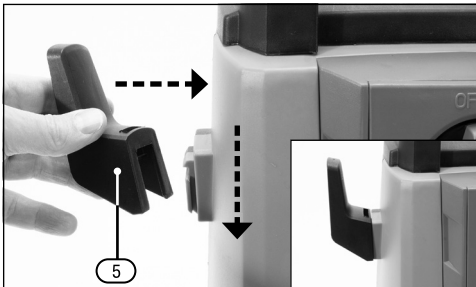
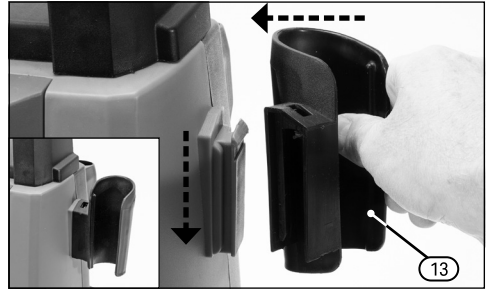

Fig. 3
Fig. 4
6.2 Fitting the Lance Holder & Cord Hook (Fig.3 – Fig.4)
- Fit the cord hook (5) and lance holder (13) at the location points, then slide down over the fittings to secure.